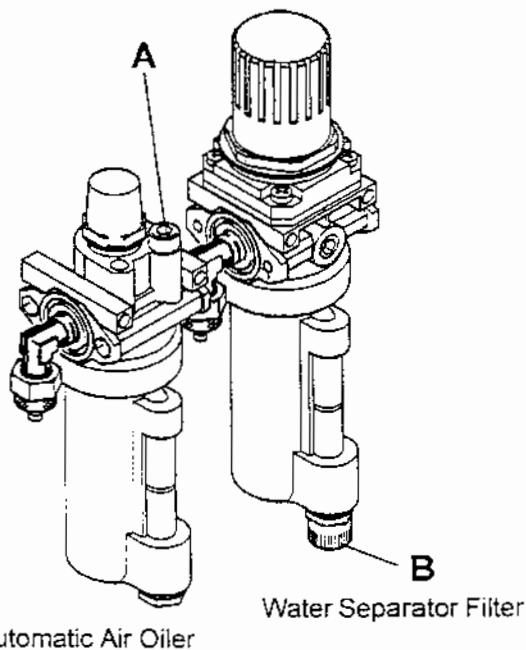

Fig.29
H. Discharge water from air filter every day!! (Do this by turning the knob "B" clockwise and upward. Water will automatically be discharged.) (see 'B' at Fig.29).